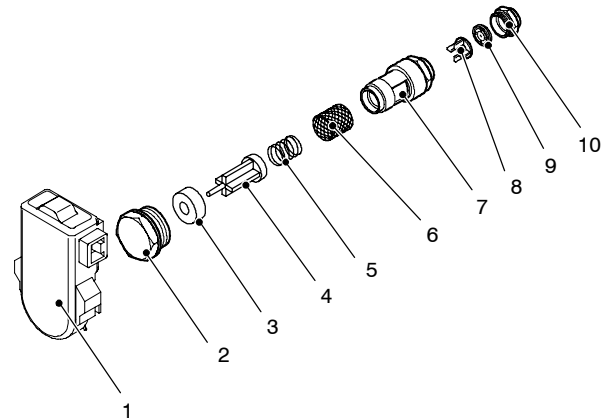

Fig. 60
- 4 Unscrew the plug 2 (Fig. 60) and extract the flow switch group.
- 5 To remove the filter from the flow switch group separate the body 7 from the plug 2 (Fig. 60) by unscrewing it.
Attention: the ring 3 (Fig. 60) has a magnetic polarity and must be correctly coupled with the spindle of the float 4.
- 2 Unscrew the threaded ring 10 (Fig. 60) and remove it from the body 7.
When the flow rate through the d.h.w. circuit reaches about 2,5 litres/min', the float 4 (Fig. 60) is drawn towards the right. The resulting magnetic field of ring 3 increases and reaches the flow switch sensor 1. The sensor generates an electrical signal that switches the boiler d.h.w operation ON.
15.2 Nomenclature and location of parts (Fig. 60)